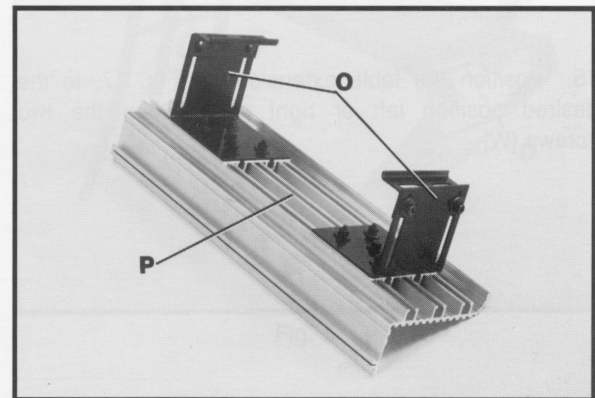

Fig. 12
10. Slide the two mounting brackets (O) Fig. 12, onto the bottom of table extension (P), as shown. A key is supplied on the mounting brackets that engage with the keyway underneath the table extension. Mounting brackets (O) should be loosely assembled to the table extension at this time.